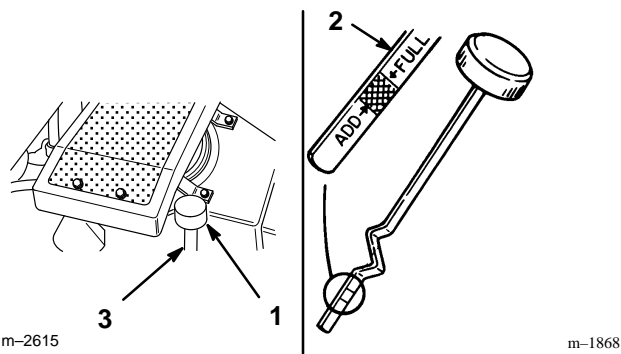

Figure 17
2. Clean around the oil dipstick (Fig. 17) so dirt cannot fall into the filler hole and damage the engine.
3. Unscrew the oil dipstick and wipe the metal end clean (Fig. 17).
4. Slide the oil dipstick fully into the filler tube, do not thread onto tube (Fig. 17). Pull the dipstick out and look at the metal end. If oil level is low, slowly pour only enough oil into the filler tube to raise the level to the “FULL” mark.
5. Slowly pour approximately 80% of the specified amount of oil specified, page 23, into the filler tube (Fig. 17). Now check the oil level; refer to Checking Oil Level, page 24. Slowly add additional oil to bring to “FULL” mark on dipstick.